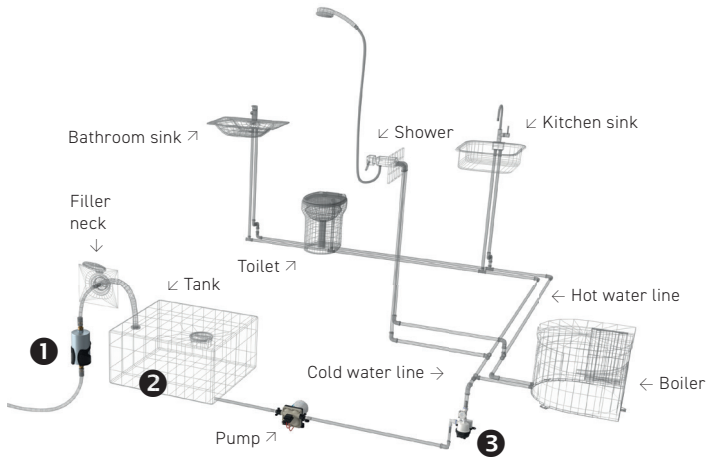

Figure 1: Installation Recommendation in a Mobile Freshwater System
How these risks can be excluded is shown in Figure 1, a practical example of how a freshwater system can be operated holistically hygienically. As a first step, we recommend pre-filtration ❶ (here: WM Filter), as well as preservation of the water (here: Silvernet Flex) ❷. The preservation extends over the entire freshwater system and reduces re-contamination or additional contamination of the water during storage. Then the water passes through the UV unit and is freshly disinfected at the point of water withdrawal ❸.